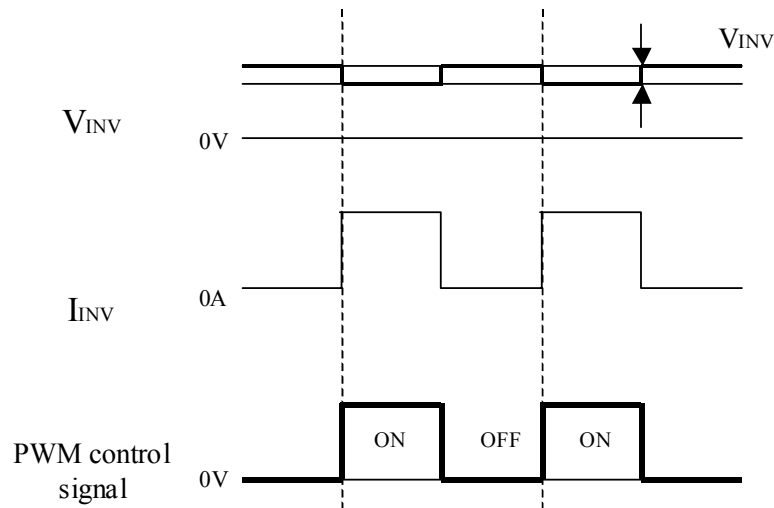

Fig.4 Brightness control voltage.
- c) Brightness control voltage is switched for “ON” and “OFF”, as shown in Fig.4. Voltage difference generated by this switching, V_{INV} , may affect a sound output, etc. when the power supply is shared between the inverter and its surrounding circuit. So, separate the power supply of the inverter circuit with the one of its surrounding circuit.